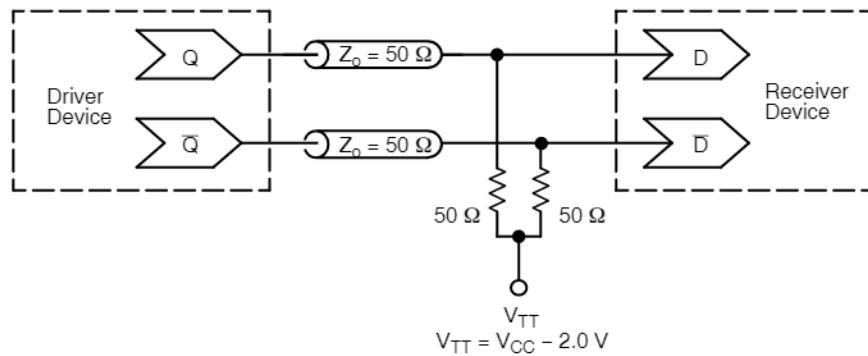

Figure 10. Typical Termination for Output Driver and Device Evaluation
2. All loading with 50  $\Omega$  to  $V_{CC} - 2.0\text{ V}$  (see Figure 10).
2. All loading with  $50\ \Omega$  to  $V_{CC} - 2.0\text{ V}$  (see Figure 10).
1. Measured using a 750 mV source, 50% duty cycle clock source. All loading with  $50\ \Omega$  to  $V_{CC} - 2.0\text{ V}$  (see Figure 10).